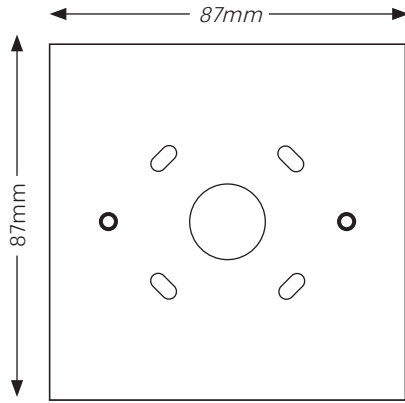

Fig 2 Backbox
- 1. Fit the backbox (Fig 2) to the wall.